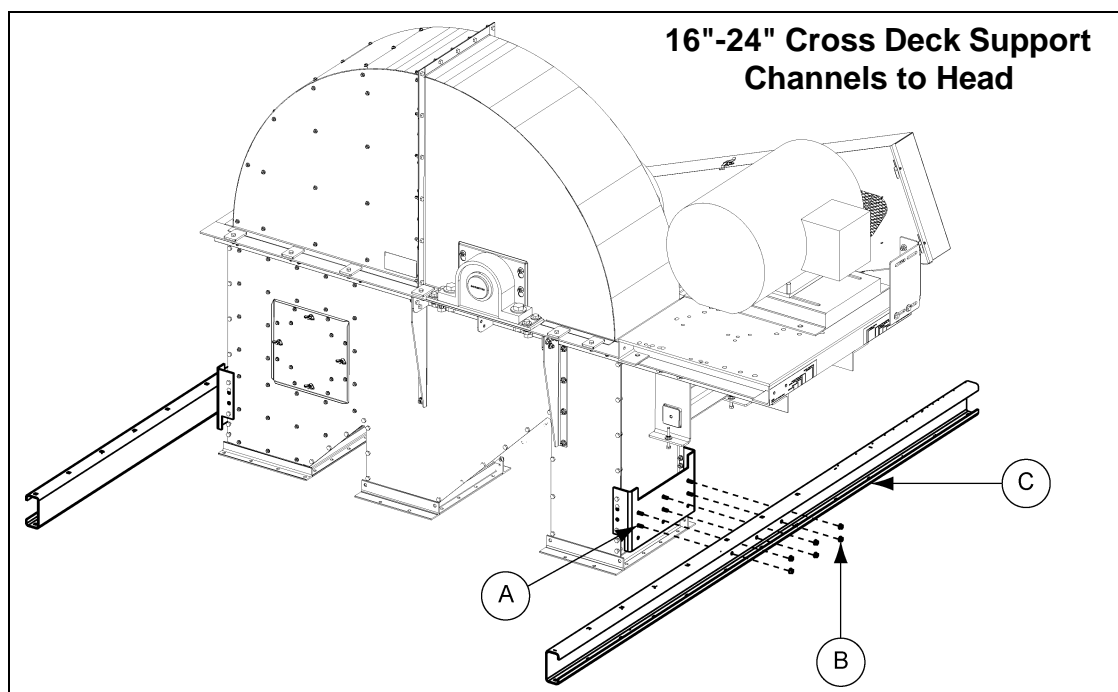

Figure 8A Cross Deck Support Channels Head
3. Attach each **Main Support Channel** to the **Lower Head Bracket** at the top most set of holes using 3/8" x 1" bolts and nuts and torque to standard specifications. (See Figure 8A.)